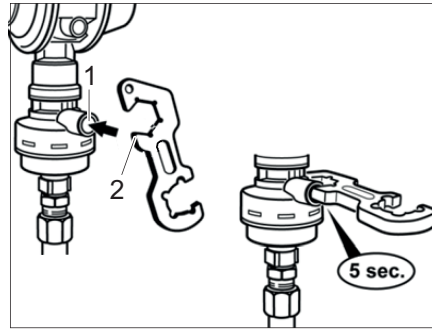

Fig. 247 Crash sensor
- Using the screwing aid (Fig. 247,2) or a similar suitable object, press the release button (Fig. 247,1) and hold it for 5 seconds.